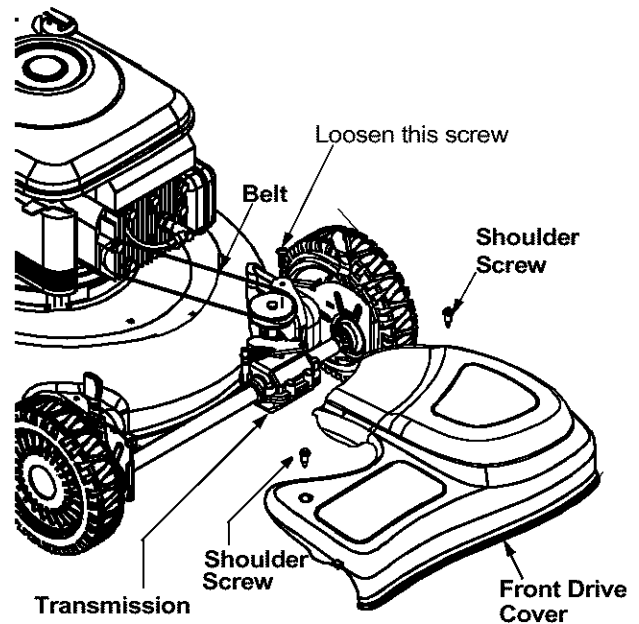

Figure 19
- Remove two shoulder screws securing the front drive cover to the mower deck. See Figure 19.
- Using a torx wrench, loosen the screw holding the belt tension spring to the transmission. See Figure 19. Do not remove the screw completely. As you loosen the screw, the tension on the belt will be released.